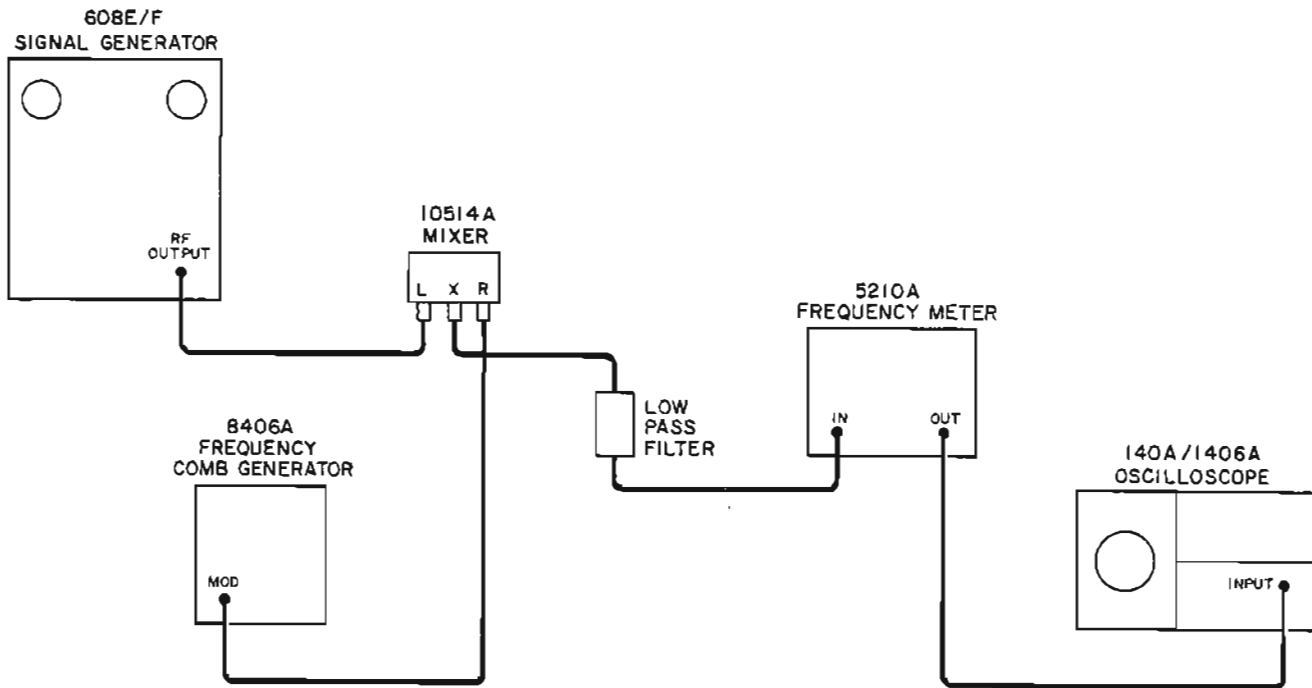

Figure 5-4. Residual and Incidental FM Test Setup
- Connect signal generator in test setup illustrated in Figure 5-4.
- a. Connect signal generator in test setup illustrated in Figure 5-4.